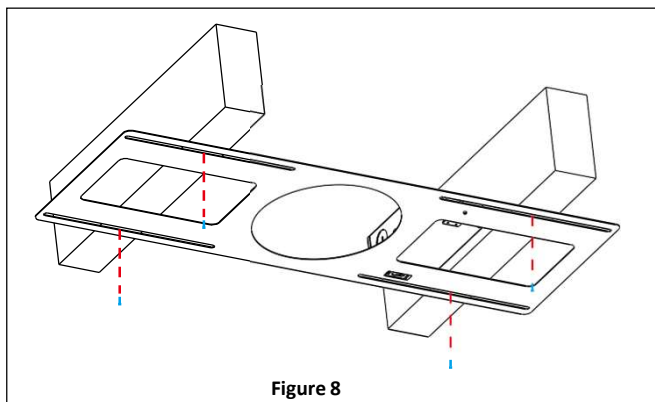

Figure 8
2. Align the frame with the ceiling joists and secure the frame the frame in place with the appropriate screws (not included). **See Figure 8.**